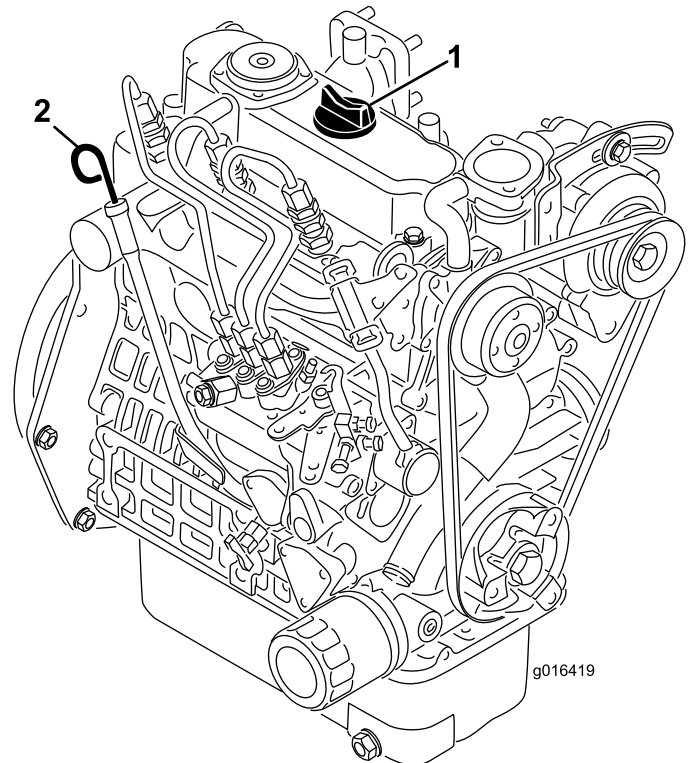

Figure 22
2. Remove the dipstick and wipe it with a clean rag (Figure 22). Push the dipstick into the tube and make sure it is seated fully. Remove the dipstick from the tube and check the level of oil. If the oil level is low, remove the filler cap from the valve cover and **slowly** add enough oil to raise the level to the Full mark on the dipstick. Add the oil slowly and check the level often during this process. **Do not overfill.**